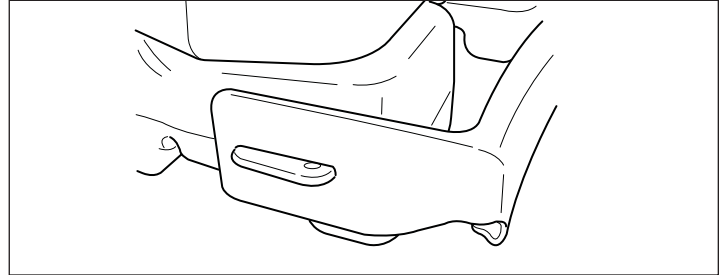

Figure 1. Install Lumbar Support
1. Install the lumbar support over the tabs on the tank base. See Figure 1.